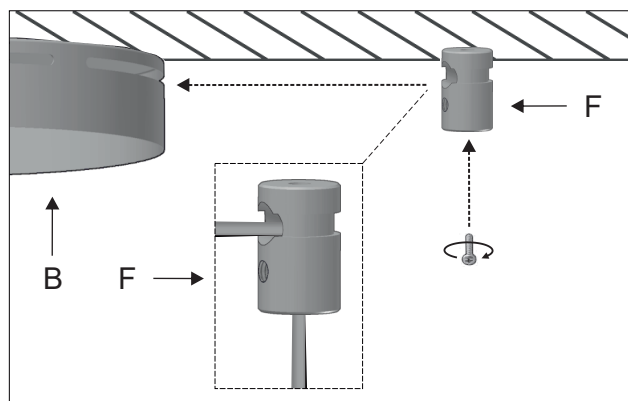

Figure 4
Attention: Make sure that the cable outlet points towards the mounting bracket (B). Figure 4